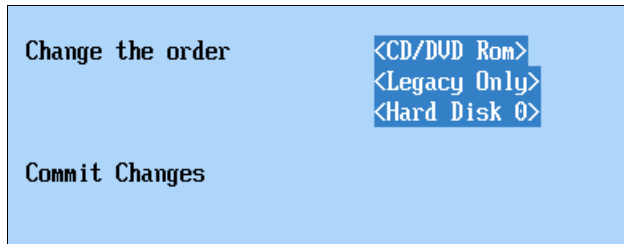

Figure 8-57 Example of a boot order
- c. Select **CD/DVD Rom, Legacy Only**, and **Hard Disk 0**, as shown in Figure 8-57 on page 423, for example, if you use internal drives that have been configured as an integrated mirror with the onboard RAID controller. If you cannot find these boot options, the options are already in the boot list.